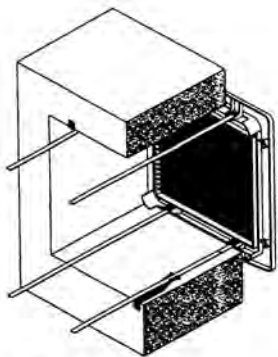
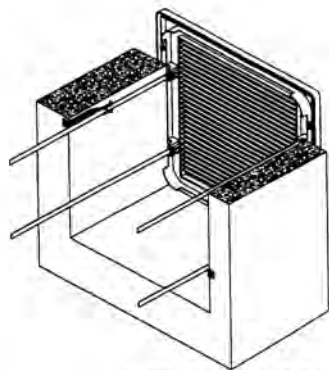

Fig. 3a WX9
Fig. 3b WX12
4. Feed two of the ladder strips through the Retainers (packed separately) diagonally opposite each other and clamp to the inner wall (Fig. 3a and Fig. 3b).